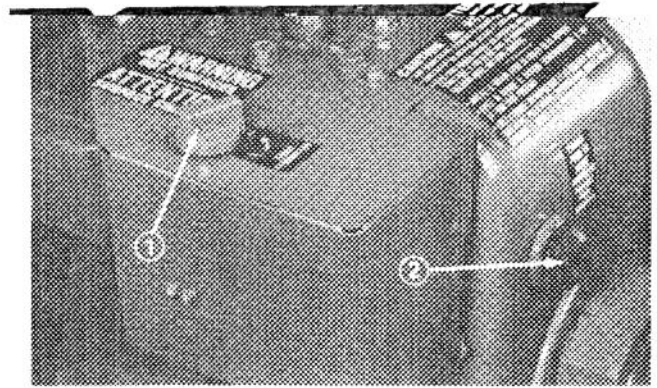

Figure 21
4. Move choke to full choke position (Fig. 21).
6. Depress primer (Fig. 21) five times.
8. After engine starts, immediately move choke (Fig. 21) to 3/4 position. As engine warms up, move choke to 1/2 position; then to OFF position. If engine falters, return choke to 1/2 position. When engine warms sufficiently, move choke to OFF position.